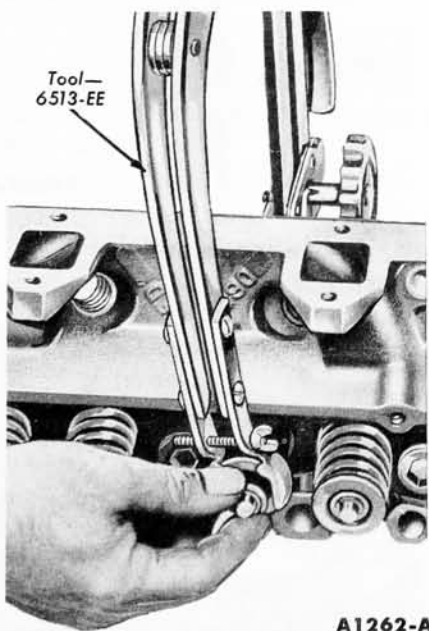

FIG. 28—Compressing Valve Spring
2. Compress the valve spring (Fig. 28). Remove the valve retainer locks and release the spring.